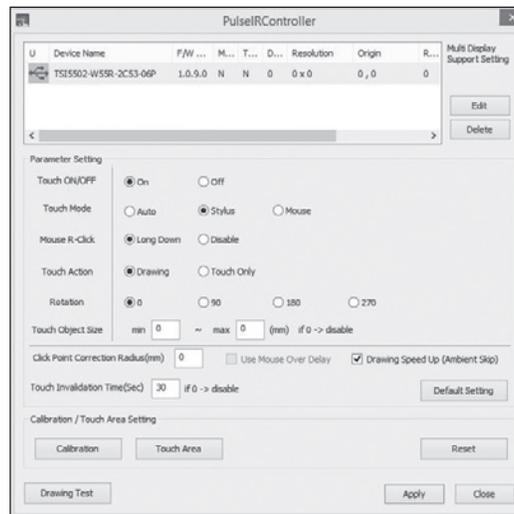

Figure 22: PulseIRController Window
7. Once the settings have been confirmed, touch the Apply Button. See Figure 22.
9. To calibrate the touch area, press the Calibration Button on the PulseIRController Window. See Figure 19. The calibration screen will display. See Figure 22.